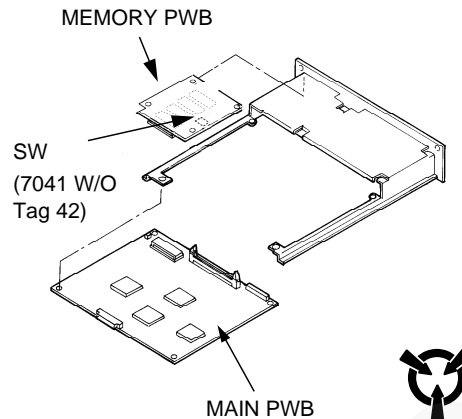

Figure 2. Memory PWB
6. Release the memory PWB from the plastic standoffs (figure 2).